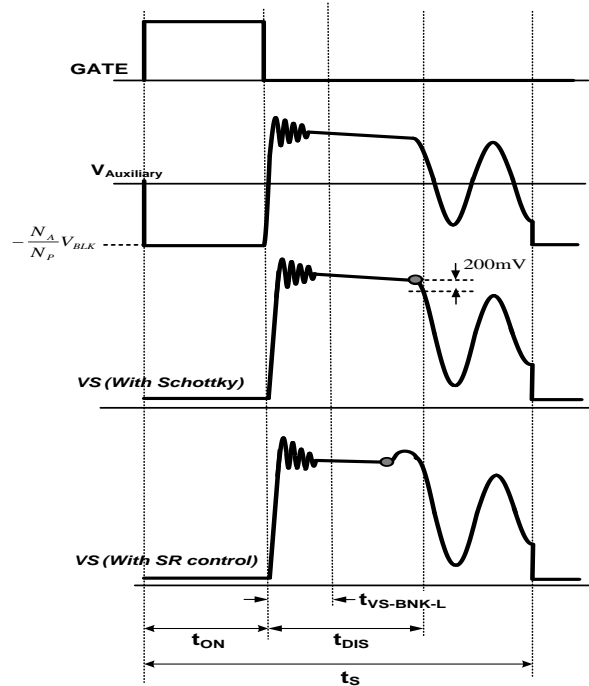

Figure 26. VS sampling with Diode or Synchronous Rectifier
VS voltage which is reflected auxiliary winding and proportional to output voltage. Therefore, It is possible to regulate output voltage by sensing VS voltage. Figure 26 shown VS sampling waveform with secondary rectifier that using Schottky diode or Synchronous Rectifier (SR).
In order to regulate output voltage in accurately range, FAN105B build-in VS sampling methodology for signal like Figure 26 showed, FAN105B samples and hold VS voltage
A leading edge blanking time($t_{VS-BNK-H/L}$) start from primary switch turned off. Most of TA design have VS oscillation after primary switch turned off, that is caused by the resonance of leakage inductance and parasitic capacitance at transformer. In order to avoid VS sampling procedure get impacted by that ringing, the oscillation should be settle before $t_{VS-BNK-L}$ ended as Figure 26 showed. t_{DIS} is secondary rectifier current discharging time which recommend better design is longer than $t_{VS-BNK-H}$ during minimum on time controlling. t_{DIS} is predictable by following formula: